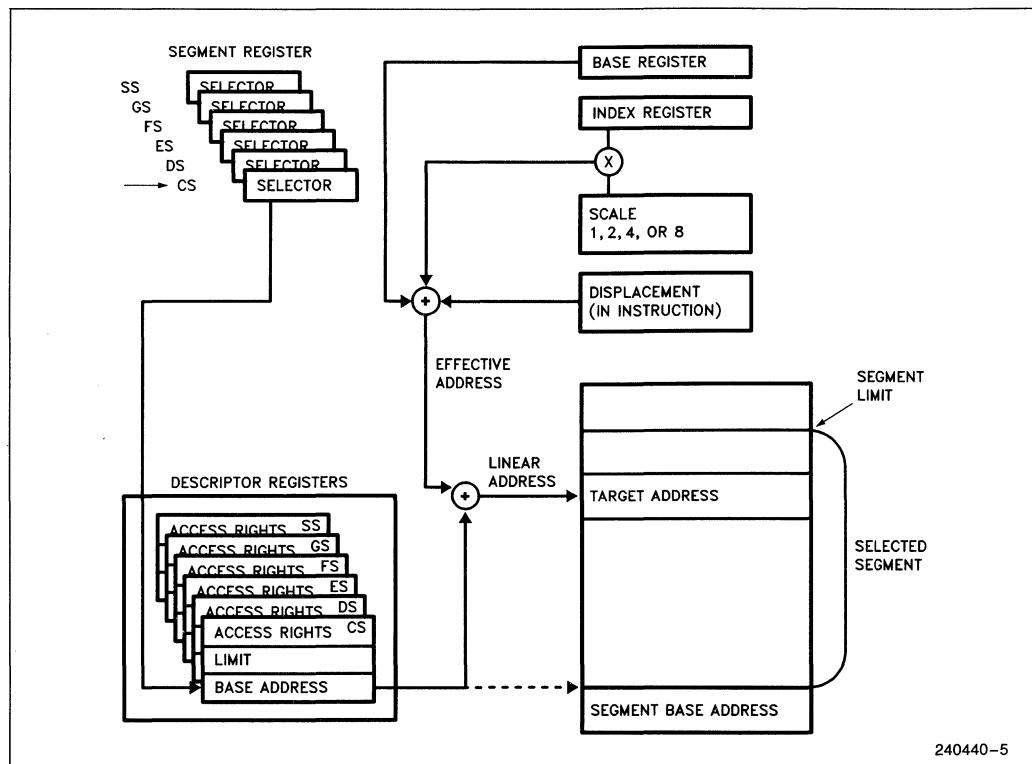

Figure 2.17. Addressing Mode Calculations
As shown in Figure 2.17, the effective address (EA) of an operand is calculated according to the following formula: